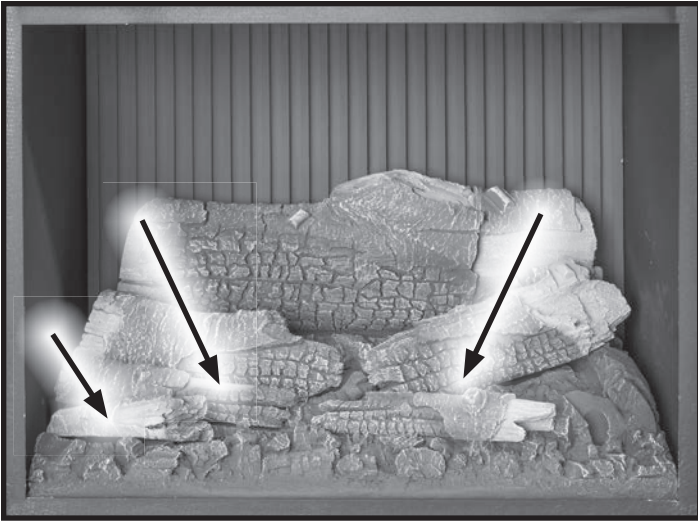

Figure 47. Front Ember Bed Logs.
Step 5: Remove the cast side (left or right) by loosening the two (2) top mount bolts (Figure 47) using a 3/8" wrench. Next, lift up to remove the cast side and lay it down on a soft surface.